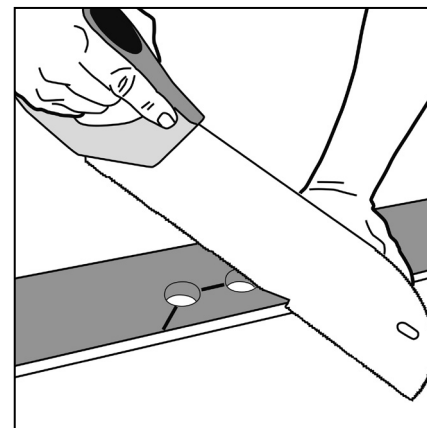

Figure 7 Radiator pipes
7.1.11.9 Radiator Pipes & Architraves/Door Frames (figs 7, 8, 9)
- > Cut around as shown with a saw or with a sharp utility knife (fig 7). Install the floor plank.